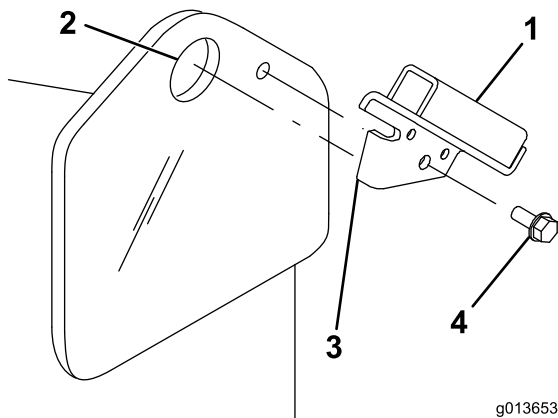

Figure 3
1. Insert the tab on the shield bracket into the lift point hole on the traction unit, with the hole in the bracket aligning with the small hole in the traction unit frame (Figure 3).
**Note:** There is a right and left bracket. Ensure that you install the correct bracket on each side. The tab should be in the lift point hole and the bracket should be on the outside of the frame (Figure 3).
2. Secure the bracket to the frame with a self-tapping screw (Figure 3).